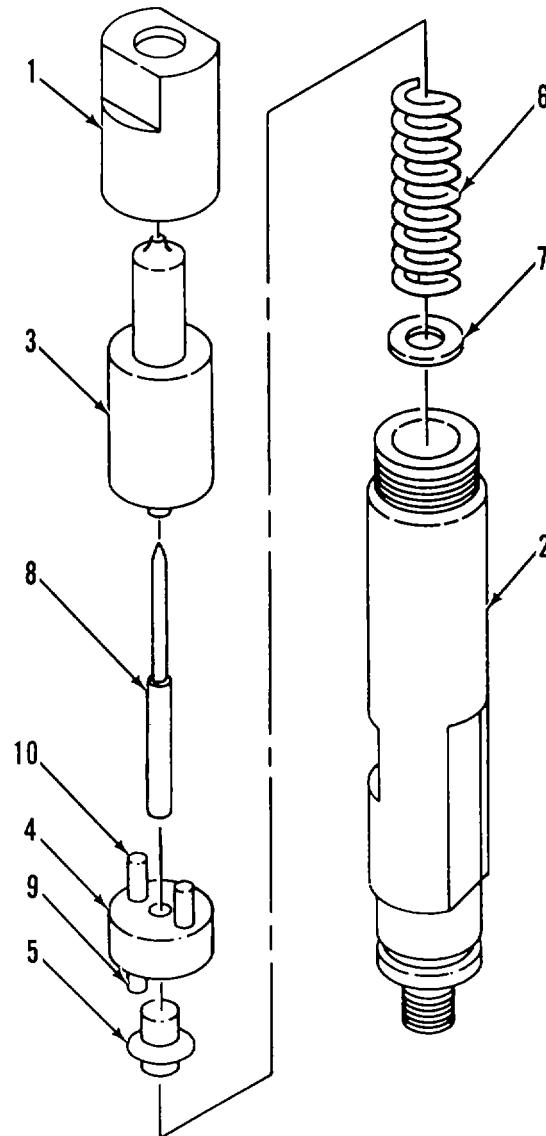

Figure 4-1. Fuel Injector
- a. **DISASSEMBLE.** (Figure 4-1)
- (1) Remove injection cap (1) from nozzle holder (2).
- (2) Remove nozzle assembly (3), intermediate piece (4), plunger (5), spring (6), and shims (7).
- (13) If clearance exceeds 0.0024-0.0037 in. (0.06-0.095 mm) for exhaust and 0.0016-0.0028 in. (0.04-0.07 mm) for Intake, replace valve guide.
- (14) Heat cylinder head to 428°F (220°C); drive out valve guide.
- (15) Install new snap spring (6, Figure 4-1) on new valve guide (7).
- (16) Insert long end of valve guide (7) into valve guide bore from top of cylinder head (8).
- (17) Drive in valve guide (7) until snap spring (6) seats.